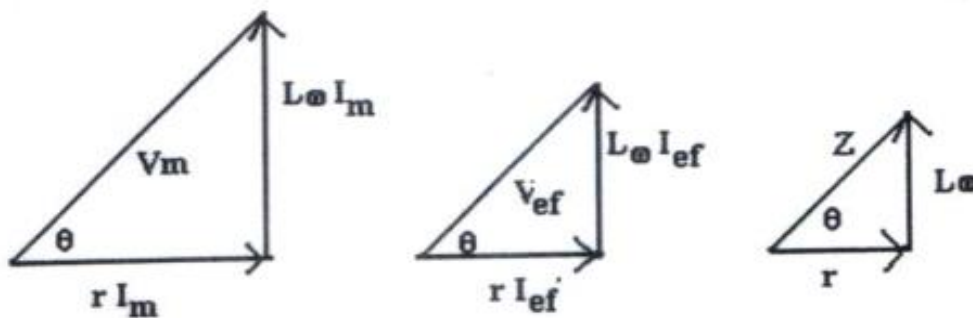

Figure 3. Phacor diagram
From equation (3), it can be seen that AC current will experience a phase shift of $\frac{\pi}{2}$ radians when passing through the inductor. This equation can be proved using a phasor diagram such as Figure 3.